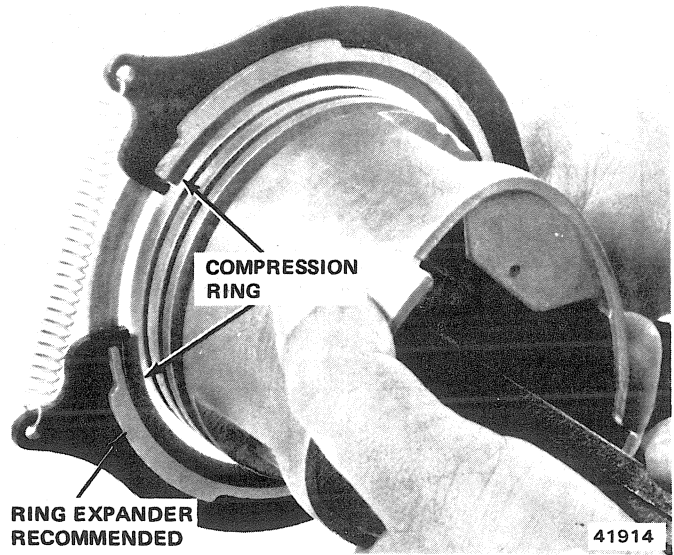

Fig. 1B-88 Compression Ring Installation
**NOTE:** Ensure upper and lower compression rings are installed properly. Ideally, ring gaps should be located 180 degrees apart. Figure 1B-89 depicts typical ring markings that indicate the top side of each ring.